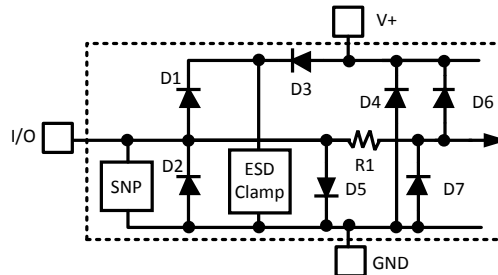

Figure 1. ESD Protection Input Structure
- (1) Absolute Maximum Ratings indicate limits beyond which damage to the device may occur. DC and AC electrical specifications do not apply when operating the device beyond its rated operating conditions.
- (2) Stresses beyond those listed under absolute maximum ratings may cause permanent damage to the device. These are stress ratings only, and functional operation of the device at these or any other conditions beyond those indicated under recommended operating conditions is not implied. Exposure to absolute-maximum-rated conditions for extended periods may affect device reliability.
- (3) When the input voltage (V_I) at any pin exceeds the power supplies ($V_I < \text{GND}$ or $V_I > V_{DD}$), the current at that pin should be limited to 5 mA. Parasitic components and or ESD protection circuitry are shown in Table 1 and Figure 1 for the LM89's pins. The nominal breakdown voltage of D3 is 6.5 V. Care should be taken not to forward bias the parasitic diode, D1, present on pins: D+, D-. Forward biasing the parasitic diode by more than 50 mV may corrupt a temperature measurements.
- (4) Visit www.ti.com/packaging for other recommendations and methods of soldering surface mount devices.